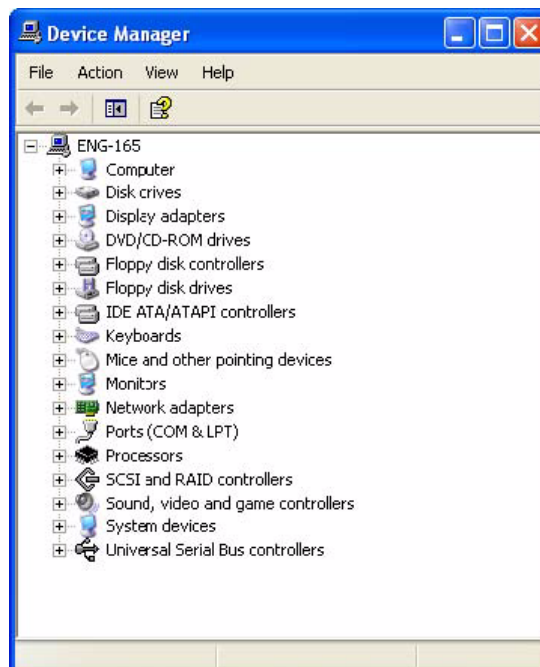

Figure 7-10 Device Manager
4. Click the **Device Manager** button. (Figure 7-10).